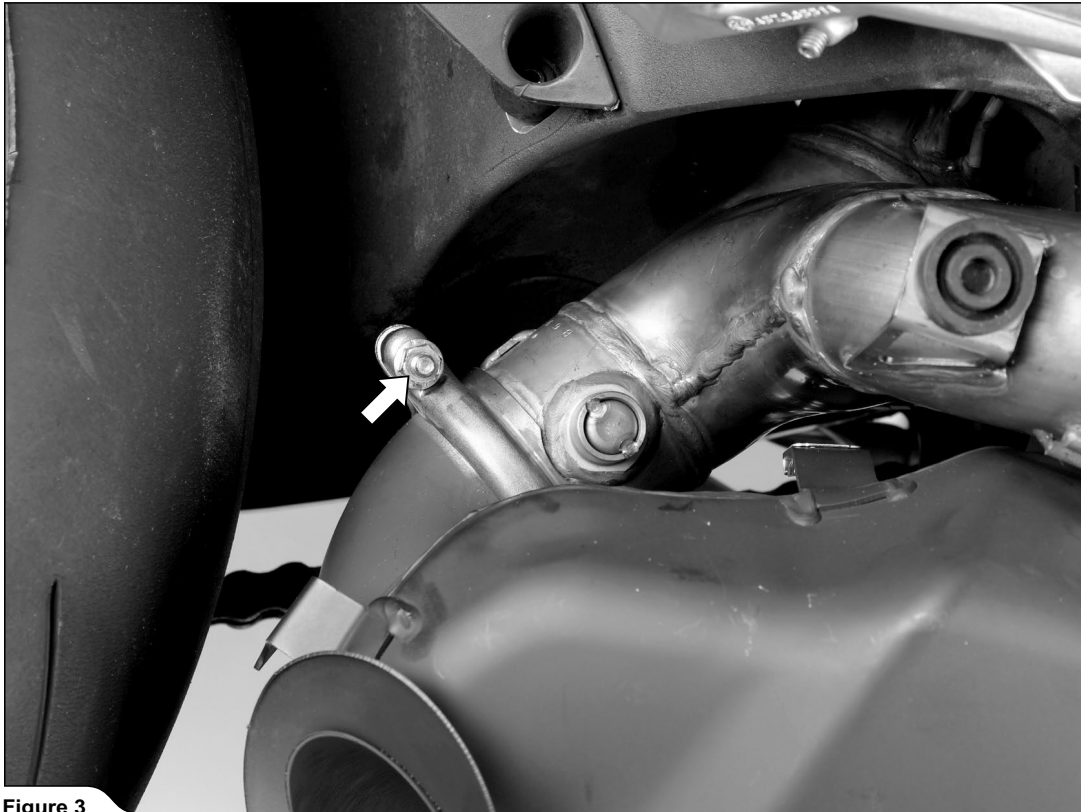

Figure 3
3. Unscrew the marked clamp and muffler's bolts and nuts on both sides of the motorcycle. Carefully remove the muffler off the motorcycle (Figure 3, 4, 5, 6).